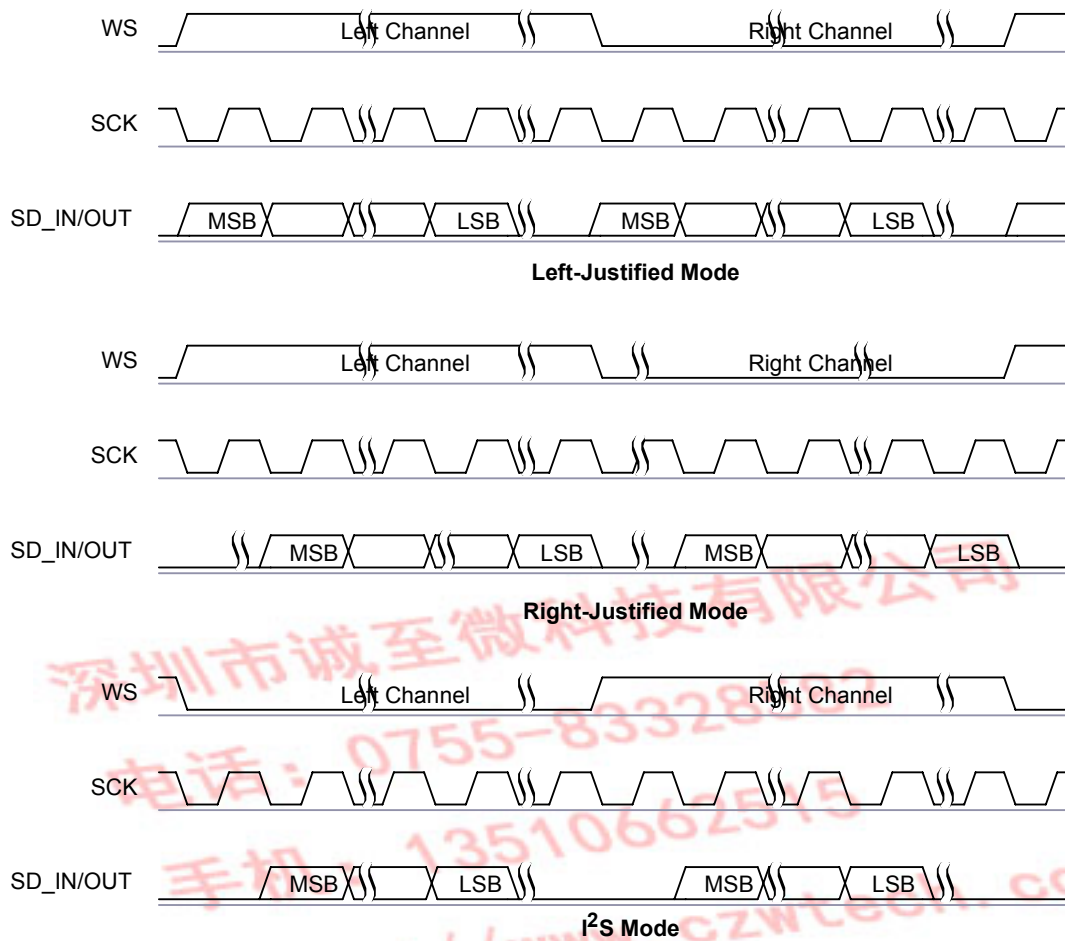

Figure 10.19: Digital Audio Interface Modes
The digital audio interface supports the industry standard formats for I2S, *left-justified* (LJ) or *right-justified* (RJ). The interface shares the same pins as the PCM interface, which means each audio bus is mutually exclusive in its usage. Table 10.11 lists these alternative functions. Figure 10.19 shows the timing diagram.